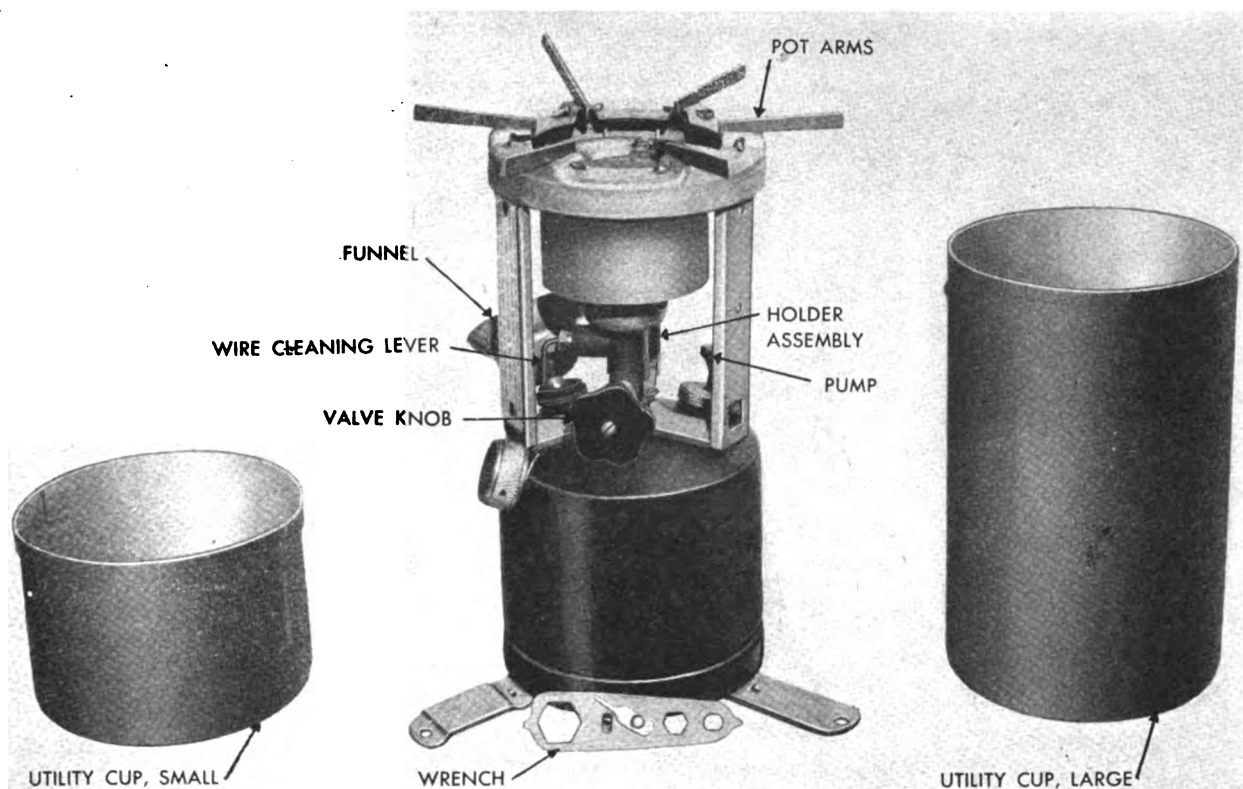

Figure 8. Stove, cooking, gasoline, M1941, one-burner (65-H-2880). (The utility cups form a container for the stove.)
a. Gasoline cooking stove M1941, one-burner (stock No. 65-H-2880) (fig. 8) (topic of this section), and gasoline cooking stove M1942, two-burner (discussed briefly in sec. III), are equipped with the same type of heating mechanism. (See fig. 9 and sec. III.) The instructions contained in this section will, in general, apply equally well to either model.
b. The following items are issued with the stove (see fig. 8):
c. Turn the wire lever (see fig. 8) on the valve several times, to push the cleaning needle up through the orifice in the burner tip. This will clean the orifice. Leave the lever hanging in the "down" position.